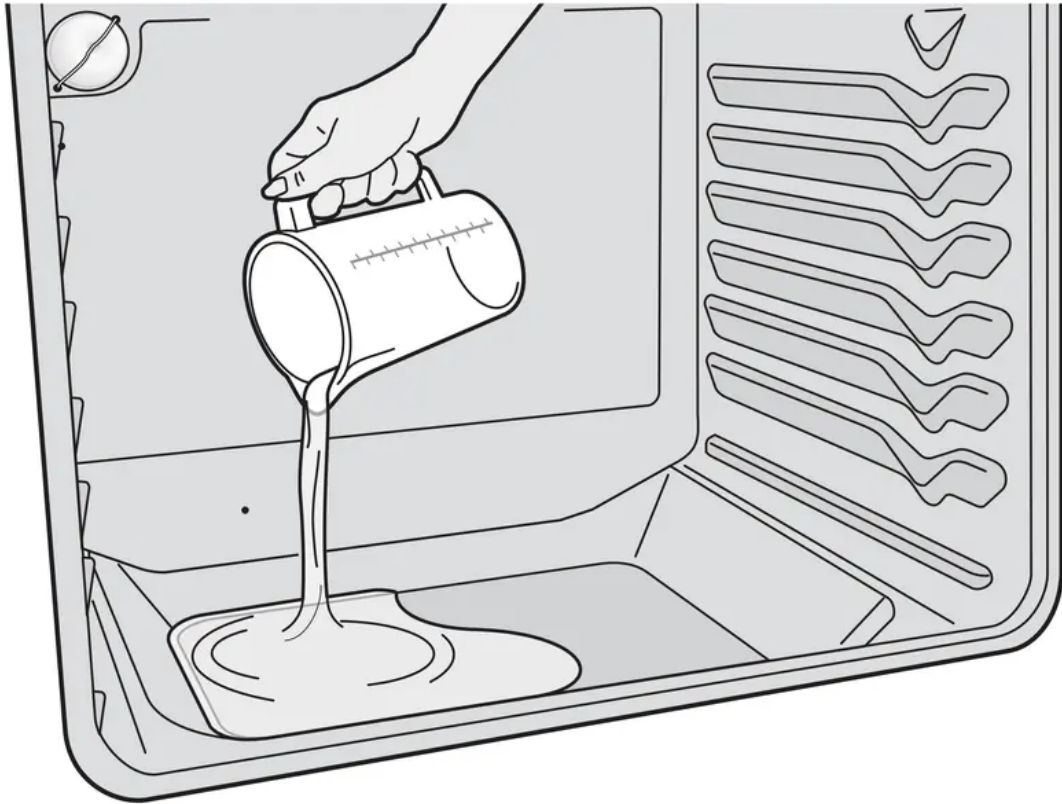

Figure 43: Pour water onto the oven bottom
3. Pour 8 oz (235 ml) of distilled or filtered water onto the oven bottom (See Figure 43).